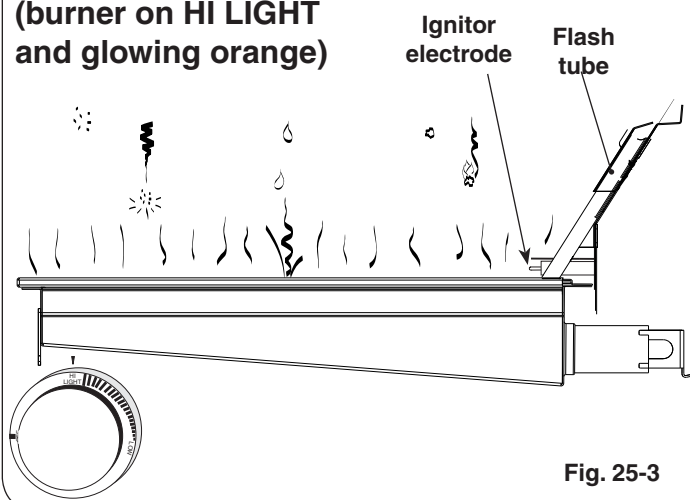

Fig. 25-3
- DO NOT place food on the cooking grid until the IR burner glows orange (Fig. 25-3). Drippings are heated and evaporate instead of sticking to and impairing burner function.